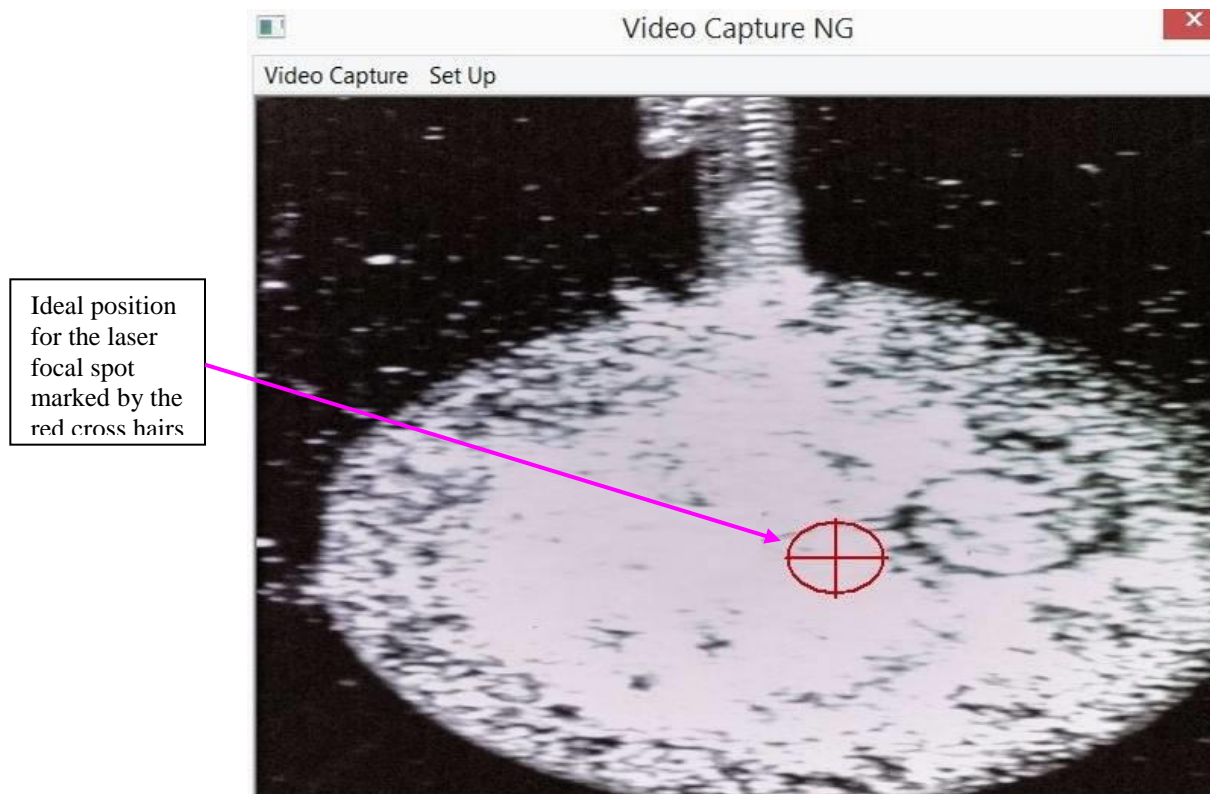

*Figure 8.3 Blank Sample Spot on the Video Capture Screen*
- Choose any empty (blank) target position. The picture on the video capture screen should look as follows (Fig. 8.3):